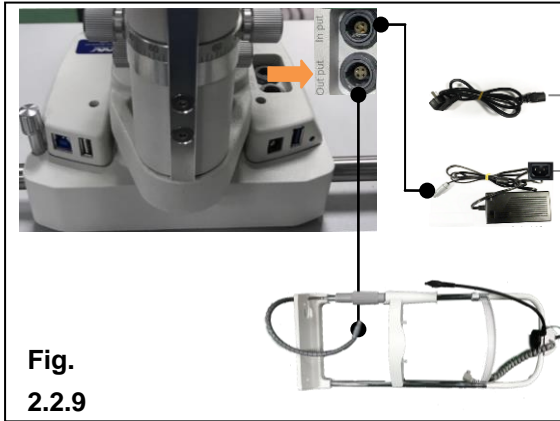

Fig. 2.2.9
6. Refer to Figure 2.2.9 The 4-pin aviation plug of the chin-rest is connected to the "Output" on the base of the slit lamp microscope; the power adapter is connected to the "Input" on the base of the slit lamp microscope.